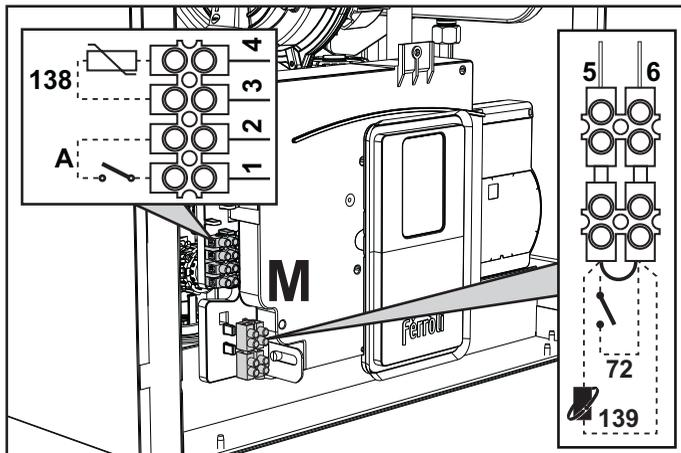
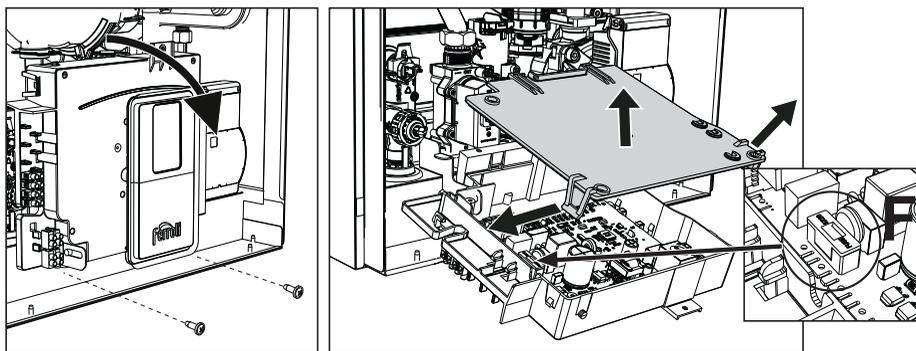

fig. 28
fig. 29
After removing the front panel (*** 'Opening the front panel' on page 326 ***) it is possible to access the terminal blocks (M) and the fuse (F) following the directions given below (fig. 28 and fig. 29). **The terminals indicated in fig. 28 must be with voltage-free contacts (not 230V).** The arrangement of the terminals for the various connections is also given in the wiring diagram in fig. 67.
ON/OFF (A fig. 28) configuration